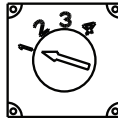

Figure 4: Voltage Setpoint Switch (Located on bottom of regulator)
1. Regulator has four selectable set points. Before installing regulator, verify appropriate switch setting for your application and change if necessary. See Figure 4 and Table 1 for fixed voltage set point options when used without battery sensor/harness. See Table 2 for battery chemistry-based charge profiles when used with compatible CEN battery sensor/harness. **Contact battery manufacturer or vehicle OEM for charging set point recommendations for your environment or application, if necessary.**